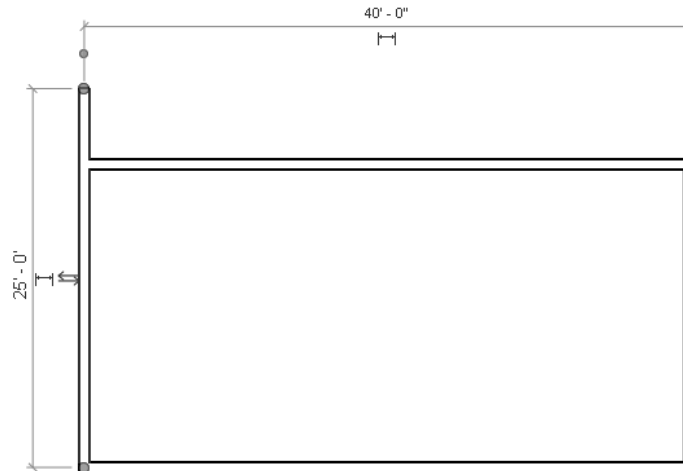

Figure 3-35 Using the drag control to modify the length of wall
1. Select the fourth wall segment to display its controls. The two blue dots at its two endpoints are the drag controls. Move the cursor near the upper dot; the color of the drag control symbol changes, as shown in Figure 3-35. Press and hold the left mouse button at this point and drag the cursor vertically downward and bring it close to the start point of the first wall segment. On doing so, the endpoint object snap is displayed at the intersection of two walls and the tooltip shows **Endpoint and Vertical**.